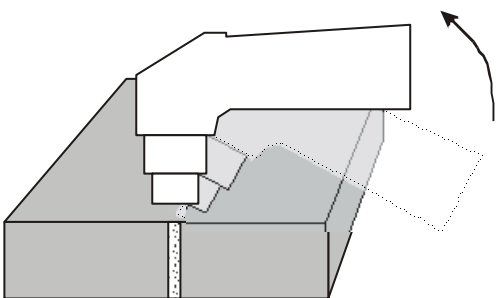

Fig. 4
8. We recommend starting cutting at the edge of the material. If needed to start from the centre of the material, or to cut hole into the material, slightly tilt the torch head and gradually it straighten into a vertical position so the spraying material would not damage the cutting tip (see Figure 4). This workflow must always be followed, if the thickness of material is above 3 mm.